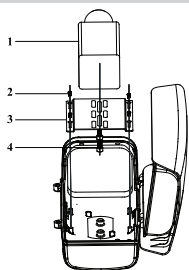

Figure 2-7
- Step 3 Fix camera installation plate onto housing shell, as shown in Figure 2-7.